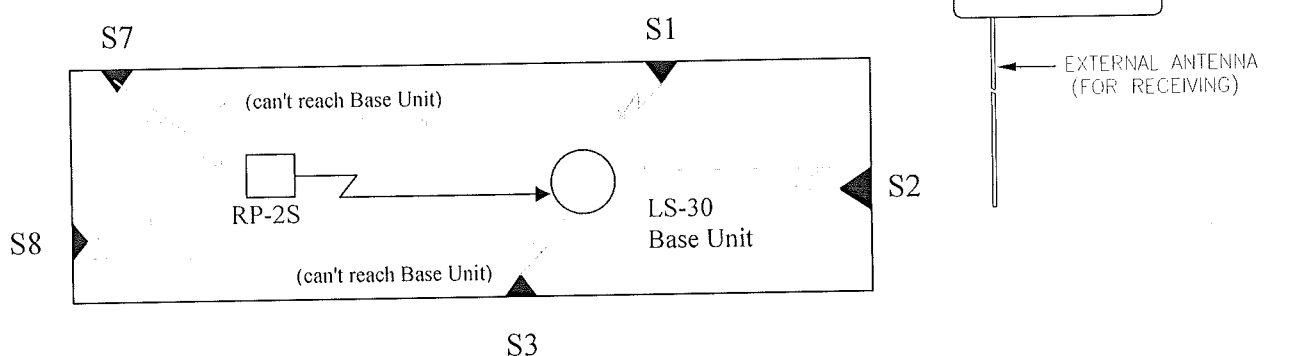

Fig. 1
- 1) To optimize the system's performance, the sensor's signal which can reach the base unit directly (ex. S1, S2, S3 in Fig. 1) is no need to be enrolled into the RP-2S. For all sensors/transmitters needing to be relayed through the RP-2S (ex. S8, S9 in Fig. 1), you also have to enroll them into the base unit.
Fig. 1 explains how to place the RP-2S in a proper location. Assume all sensors' radio signals can reach the base unit, except S7 and S8. First, you have to enroll the codes of S7 and S8 into RP-2S and Base Unit then put the RP-2S at somewhere between S7 & S8 and the base unit, usually closer to S7 & S8 side. A proper location must meet two conditions, the place where **A). The RP-2S can receive the radio signals from S7&S8 (you can check this by observing the LED status on the RP-2S) , B). The re-transmission signal from the RP-2S can reach the base unit.** It's recommended that you may do site test at several different locations before fixing the RP-2S. For the sake of convenience, you can turn on the battery switch of RP-2S, without connecting a power adapter during the test.